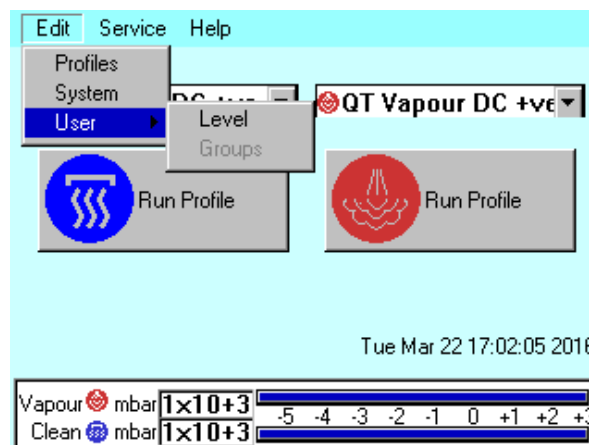

Figure 26 - Edit User level
- iii. Select **Level**, a dialog box will appear on the screen, Figure 26.